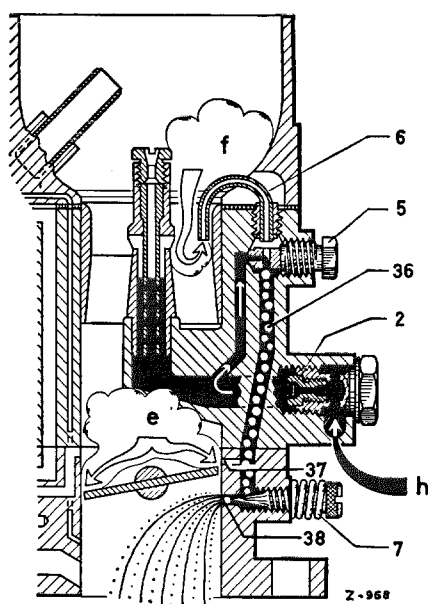

Fig. 07-0/17
The fuel which is drawn in via the idle fuel jet (5) is mixed with the air from the idle suction tube (6) (or the idle air jets), forming a mixture which passes into the idle canal (36). In the idle position a further supply of air for the idle mixture enters through the by-pass slot (37) (or the by-pass bores) above the throttle valve and then passes into the suction canal through the idle mixture bore (38) and combines with the air streaming through the throttle valve gap to form the final idle mixture (Fig. 07-0/17).